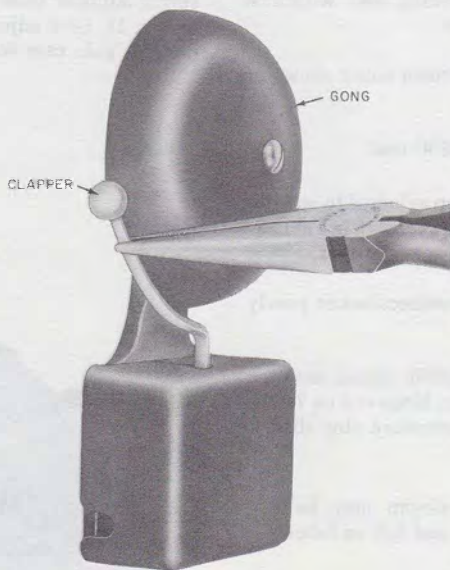

Fig. 19—Adjusting Clapper Movement, 7-Type Bell
4.13 If 7-type bell armature vibrates satisfactorily, but the clapper does not strike gong or clapper arm strikes cover, adjust with long-nose pliers (Fig. 19).